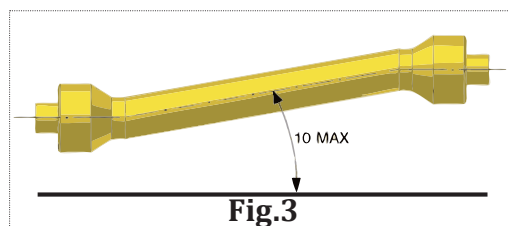

Fig.3
- Disengage the PTO when the driveline is at an excessively wide angle (never more than 10 degrees, **Fig. 3**) and when it is not used.